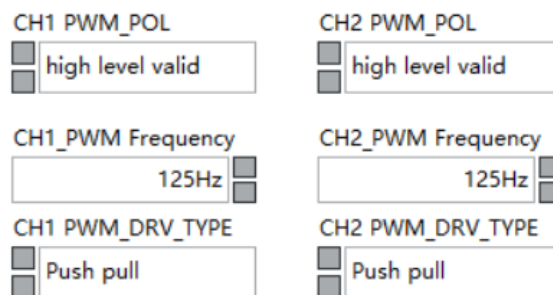

Figure 4.2.17 PWM parameter settings
- There are independent PWM waveform parameter options in the PWM programming interface, including effective level configuration, PWM frequency, and output mode. Each parameter can be selected in the input/selection box corresponding to Figure 4.2.17, and then burned into the chip together with the multi-point programming parameters. Please refer to our product datasheet.